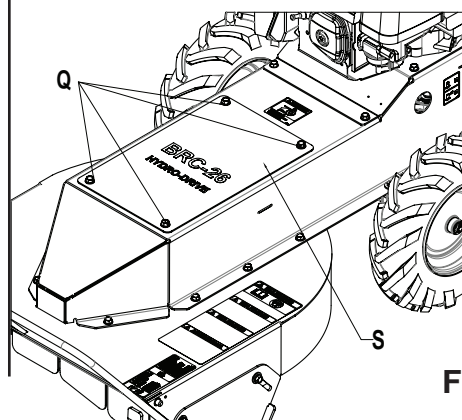

FIGURE 1
2. Remove the four bolts **Q** securing the Blade belt cover **S**. (Figure 1)